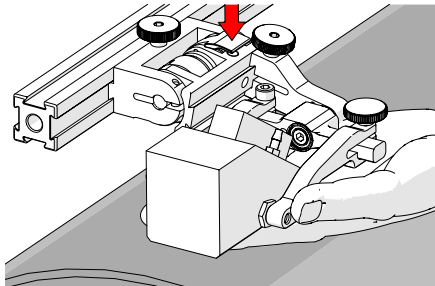

Fig. 74 - Lift and press latch button
3. Lift probe slightly and press latch button (Fig. 74) to apply spring pressure to the wedge.